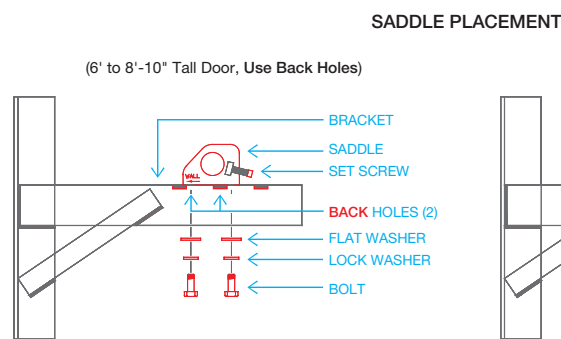

Figure 4A
- Carefully lift the door on to the brackets and attach the saddles (**Figure 4A** or **4B**). Position the door as close to the header as possible but allow enough space for the door to rotate a complete turn. Then, tighten the saddle attachment bolt to 20 foot pounds of torque.